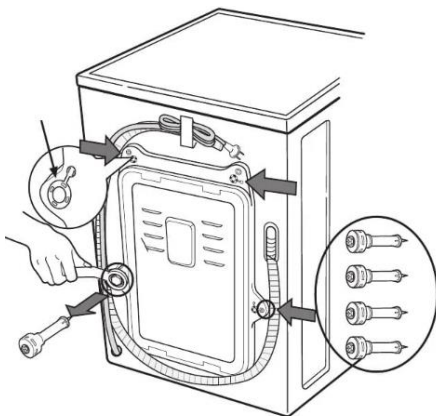

Fig. 2
1. In order to avoid internal damage during transportation, 4 bolts are installed on the device. Before using the washing machine, remove these bolts (see Fig. 2)
2. Using a wrench (included in the package), loosen the 4 bolts (see Figure 2)